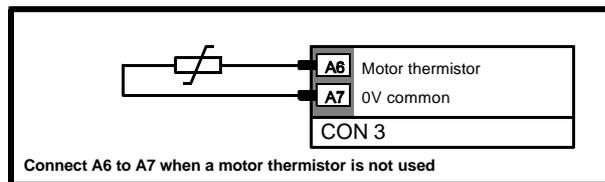

Figure 6–2 Basic connections for Keypad mode
2. Make the signal connections shown in Figure 6–2.